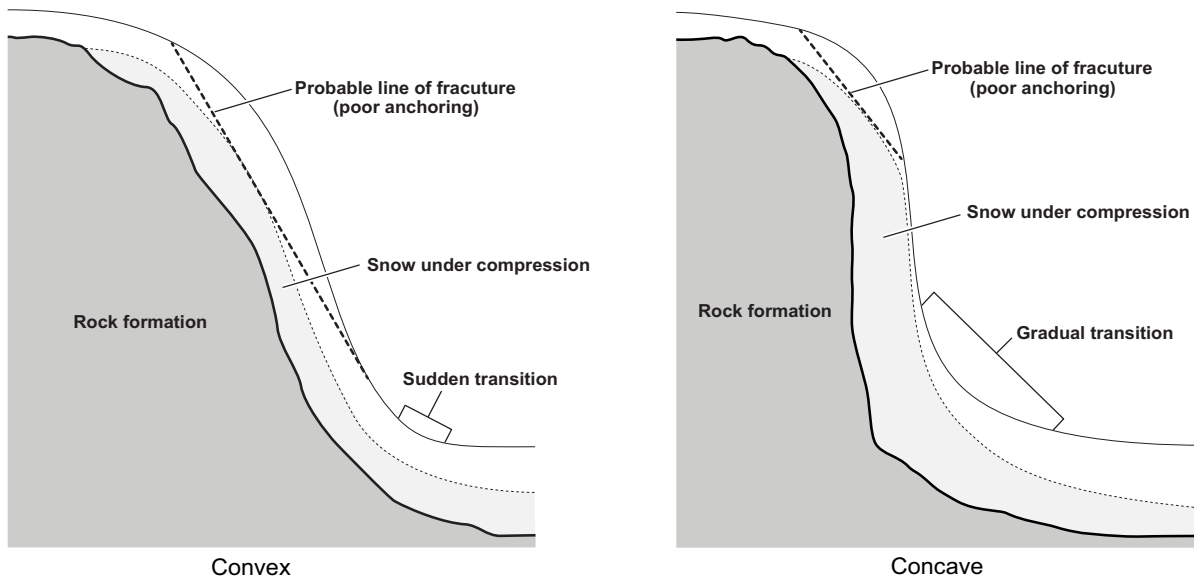

Figure 6-7. Convex and Concave Slopes.
- **Convex Slopes.** On convex slopes, slabs are most likely to fracture just below the bulge where stresses are greatest (see Figure 6-7).
- **Concave Slopes.** Concave slopes provide a certain amount of support through compression at the base of the hollow, but they are still capable of avalanching, particularly on large slopes (see Figure 6-7).